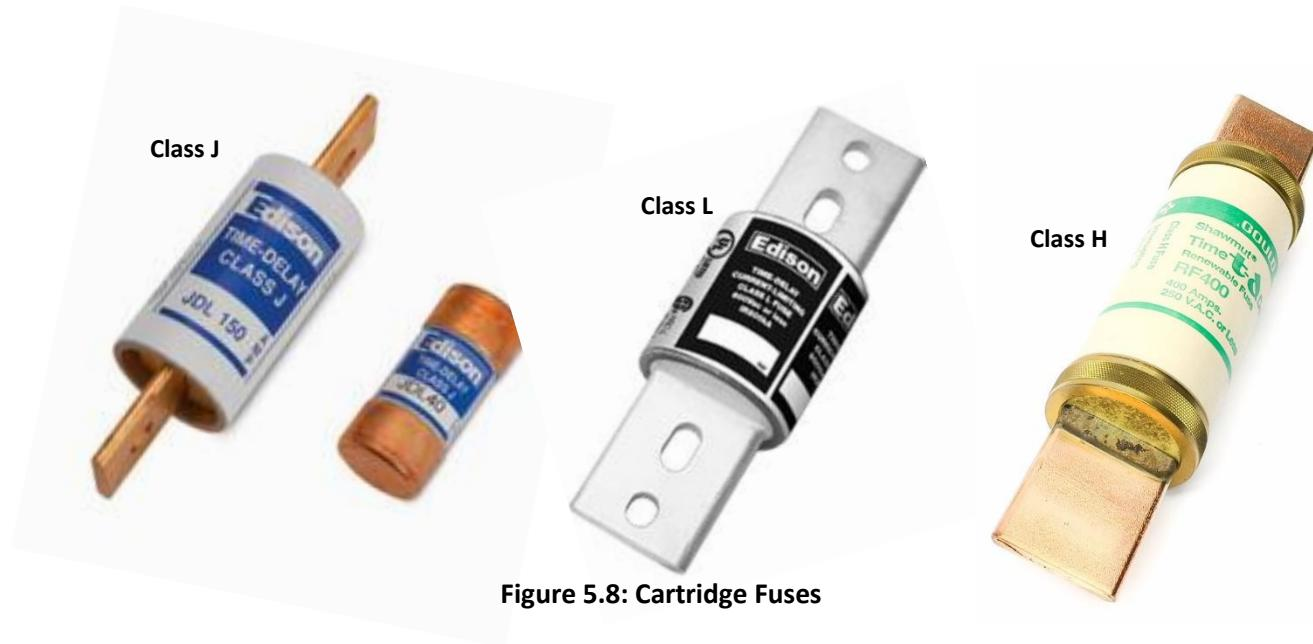

Figure 5.8: Cartridge Fuses
- 5-20 Class J fuse dimensions are different from standard Class H cartridge fuses of the same voltage and current ratings. They require special fuseholders that will not accept noncurrent-limiting fuses. This requirement complies with NEC Section 240-60(b), which reads in part, "Fuseholders for current-limiting fuses shall not permit insertion of fuses that are not current-limiting." Class J fuses of 60 A or less are ferrule types. Non-ferrule types, from 60 to 600 A, have slots in the fuse knife blades to permit bolted or knife-blade connections to fuseholders, as shown in Figure 5.8 on the left.
- 5-21 Class L fuses are divided into several current classifications, with various blade mounting hole dimensions. The dimensions vary according to fuse size, permitting bolted connection to fuseholders. An example is shown in Figure 5.8 in the center.
- 5-23 All fuses presently listed as UL Class K have the same dimensions as conventional Class H 250 V or 600 V, 0 to 600 A fuses. An example of a Class H fuse is shown in Figure 5.8 on the right. Because of this interchangeable feature, Class K fuses are not labeled current limiting, even though qualifications for K1 fuses closely match the qualifications for Class J fuses.